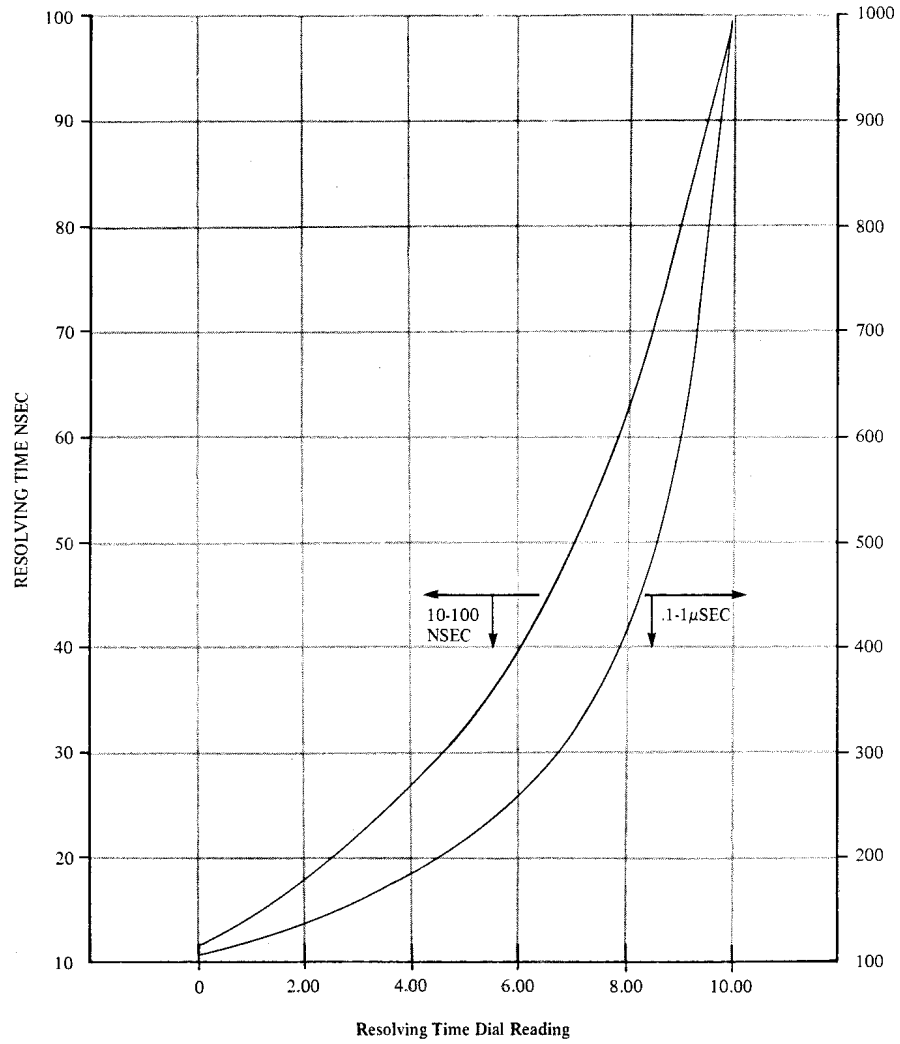

Figure 4-2 Dial Resolving Time vs. Actual Resolving Time
5. Check that an output is generated when the input signals occur within the RESOLVING TIME set on the RESOLVING TIME control. Vary the delay and RESOLVING TIME controls and check them at different settings. Refer to Figure 4-2 for a typical linearity/accuracy curve of actual resolving time vs. indicated time.